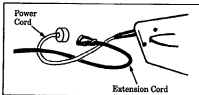

Figure 13
3. **Secure extension cord to the power cord** as shown in Figure 13 to prevent disconnection.
4. **Insert the extension cord socket into the plug on the unit.** Figure 13.